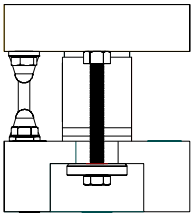

FIG. 1: FIXED PIN LOAD POINT
The HI HLPB Free Sliding Load Point System is designed for use on medium capacity vessels. The pre assembled Free Sliding Load Point System consists of three (3) different low profile mount types (See Figs. 1,2,3) specifically designed to eliminate the effects of unwanted forces and resulting in exceptional load measuring accuracy.